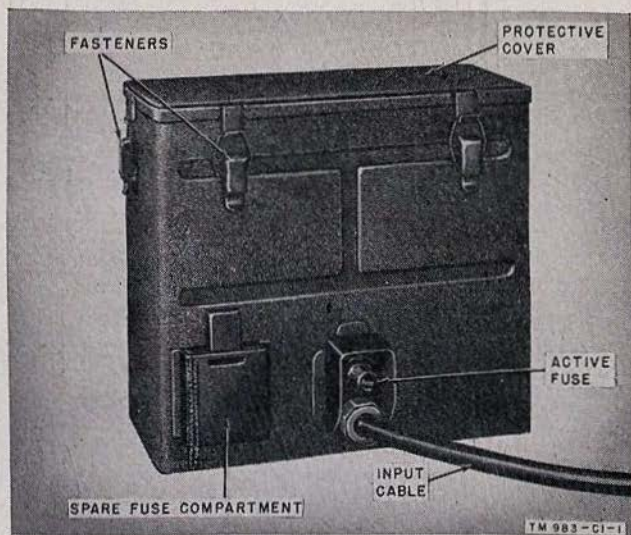

Figure 2. Vibrator power supply PP-114/VRC-3, backview.
d. The power supply is shipped with a metal cover as shown in figure 2. The cover is used to waterproof the power supply when it is not fastened to Radio Receiver and Transmitter BC-1000-().
Delete figure 2 and substitute the following: